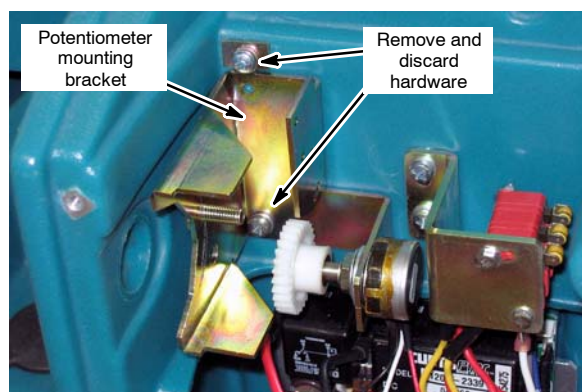

Fig. 4
4. Pull handle bar out from machine This will allow the hub assembly, (2) nylon washers and the cam plate (or collar) to drop free. Remove the torsion spring from the hub, discard the hub, the nylon washers and cam plate, but keep the torsion spring to re-use later. Keep the collar on the 5400 machine.
5. **(1510, 1610, Strive®, 5400 models)** Remove the potentiometer mounting bracket from the machine. Remove the potentiometer and gear from the bracket - leave the wiring attached. Discard the bracket and bracket mounting hardware. Discard the flat washer from the potentiometer, but keep the lock-washer & hex nut to re-use later (Figure 4).